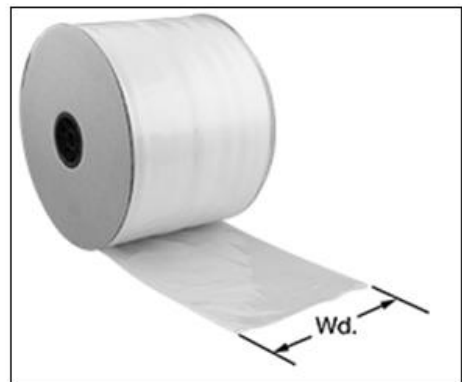

Figure 2: Heat Seal Bag (Cut-to-Length)
2. Width dimensions (see **Figure 2**) will be given on bag-level drawings. Width tolerance is ± 12.7 mm [.50in].